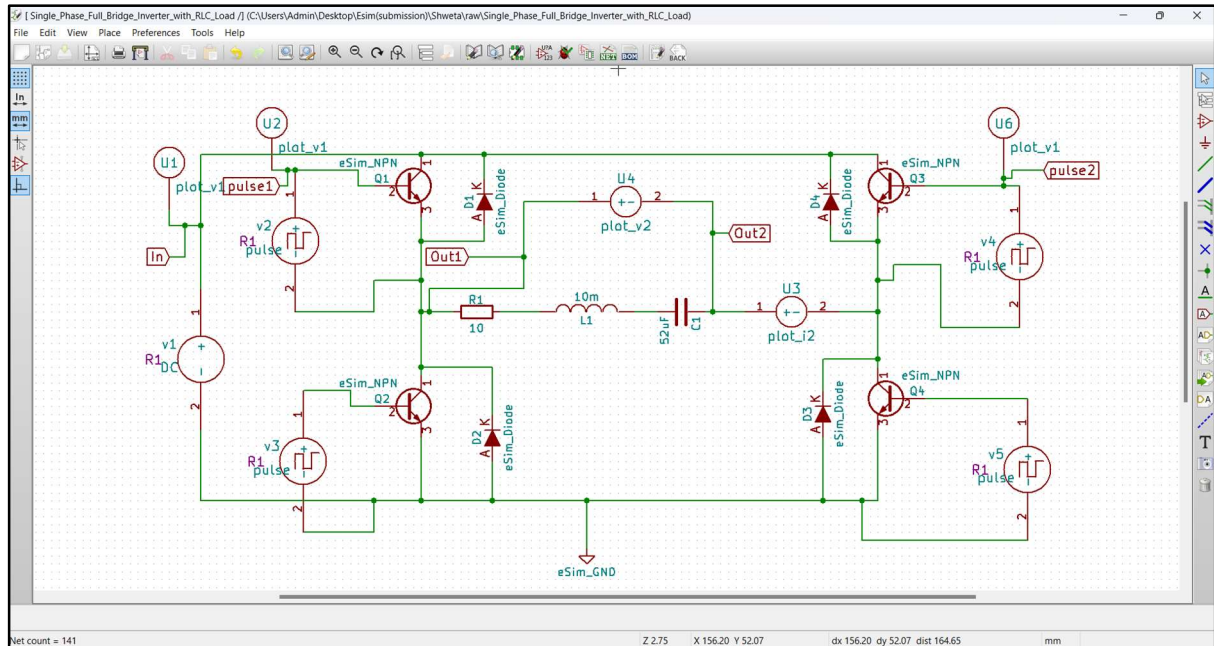

Figure 1: Circuit schematic of Single-Phase Full Bridge Inverter with RLC load
A single-phase full-bridge inverter serves the purpose of converting direct current (DC) into alternating current (AC) by employing pairs of electrical switches. This configuration allows for the generation of alternating half-waves, where S1 and S2 are closed during one half-wave, and S3 and S4 during the other. Figure 1 provides an operational schematic, emphasizing the complementary operation of switches S1&S2 and S3&S4. These switches are optimized for efficient operation. Modulation involves utilizing identical reference voltages of opposite polarity. Typically, the same electrical carrier is utilized for both driving signals. With the inclusion of an RLC load, the inverter transforms the DC input voltage into AC output voltage effectively.